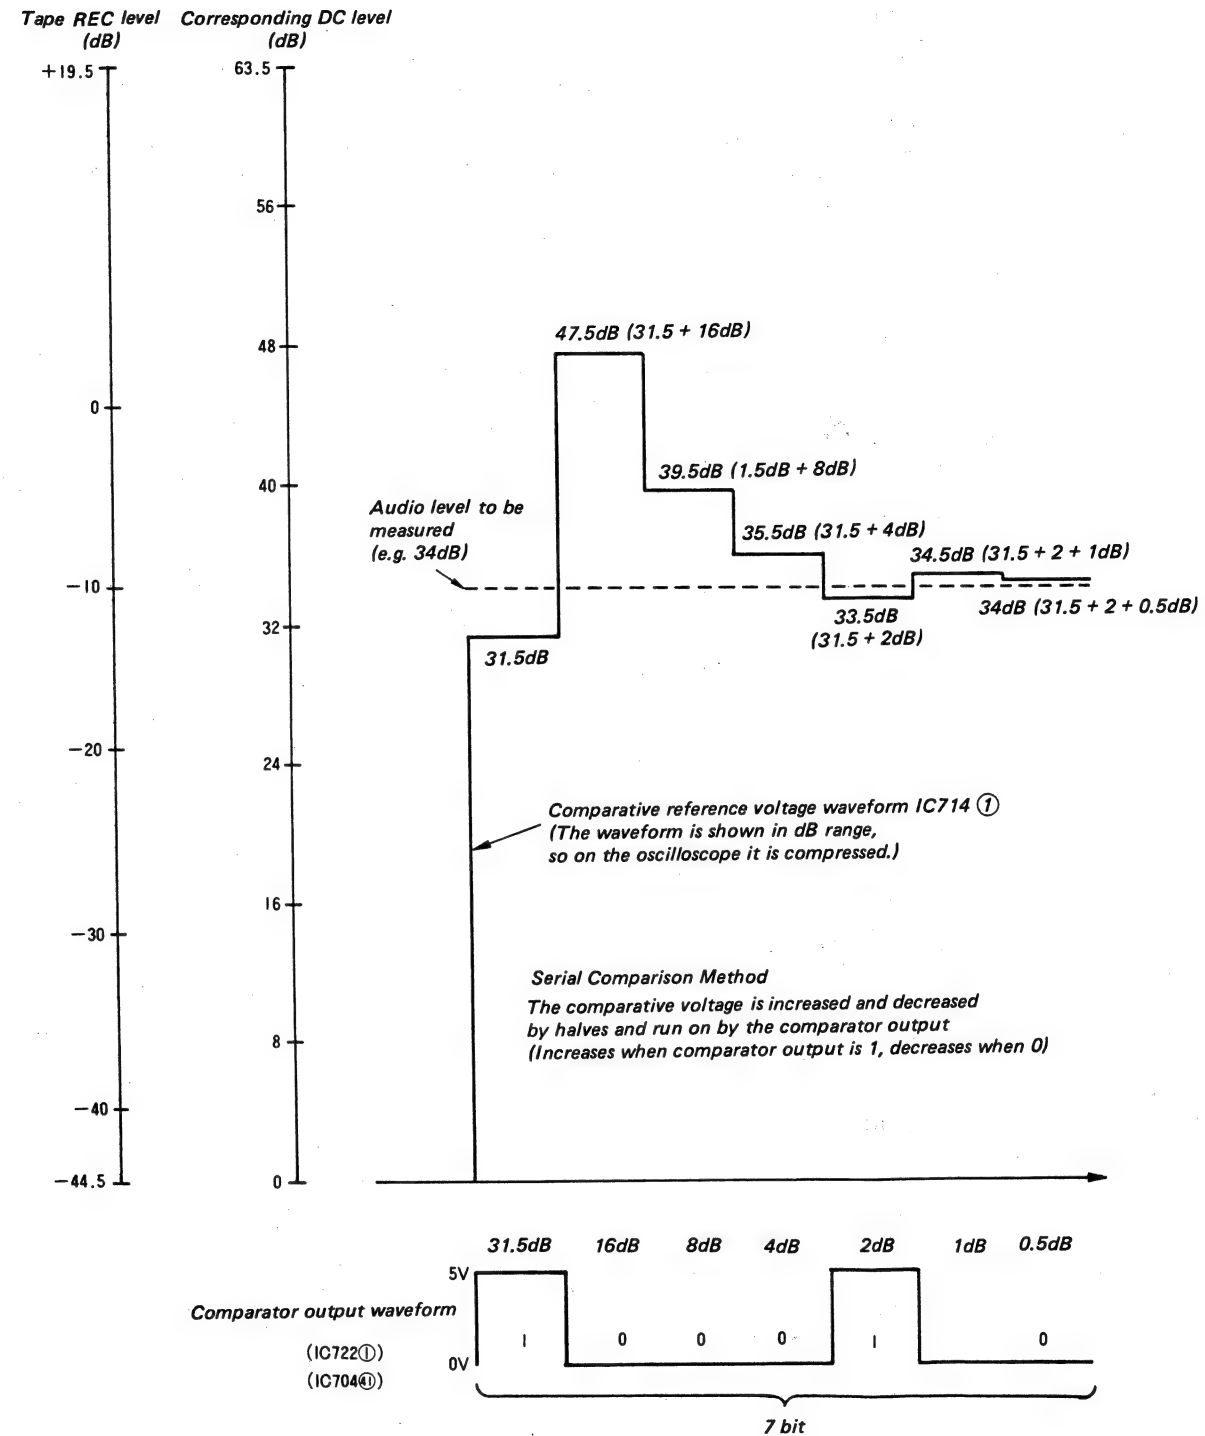

Fig. 17
As in Fig. 16, among the signals applied to IC713 output, the source signal or tape signal L or R is selected by IC704 (micon) and when IC713 pin ⑥ is low, outputs from pin ③. The signal from pin ③ passes through the circuits, inputs to IC714 pin ⑤, and the audio signal is rectified. This rectified voltage is charged to C740 and is simultaneously applied to IC722 pin ③. The voltage of IC722 ③ and ② are compared. The voltage applied to ② results from a combination of from 0.5dB to 32dB resulting from signals output from IC704 ⑨ - ⑫, ⑫ - ⑫. First 31.5dB voltage is applied to ②. (turns on Q738) The voltages of ② and ③ are compared, and if the result is that voltage on ③ is higher, IC722 ① goes high, and this is applied to IC704 pin ④. Next, 16dB is applied to the 31.5dB voltage above, and the resulting 47.5dB is applied to pin ②. Then it is compared to voltage at pin ③ and that result is applied to IC704 pin ④. In this way the successive comparisons are made, ending with 0.5dB, and the microcomputer reads the audio signal level as dB value (digital data). (Serial comparison method, shown in Fig. 17.)
In this way the successive comparisons are made, ending with 0.5dB, and the microcomputer reads the audio signal level as dB value (digital data). (Serial comparison method, shown in Fig. 17.)